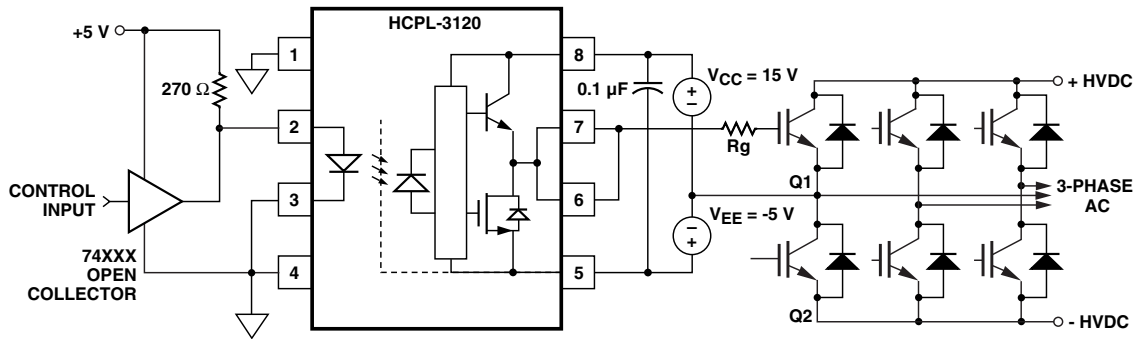

Figure 26. HCPL-3120 Typical Application Circuit with Negative IGBT Gate Drive.
**Step 1: Calculate Rg Minimum from the IOL Peak Specification.** The IGBT and Rg in Figure 26 can be analyzed as a simple RC circuit with a voltage supplied by the HCPL-3120.
For the circuit in Figure 26 with  $I_F$  (worst case) = 16 mA,  $R_G = 8 \Omega$ , Max Duty Cycle = 80%,  $Q_G = 500 \text{ nC}$ ,  $f = 20 \text{ kHz}$  and  $T_A \text{ max} = 85^\circ\text{C}$ :